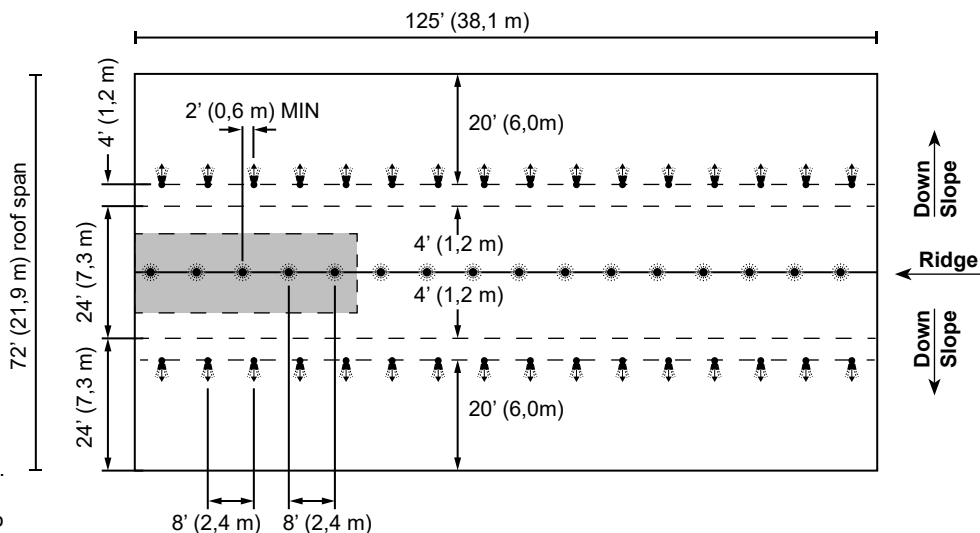

Figure 11A: Wet System Design for 72 ft (21,9 m) Roof Span
1. Figure 11A - Calculate the 5 most demanding VK697 Ridge Sprinklers. Down slope V-EP Sprinklers staggered arrangement. Continue to #2 below.